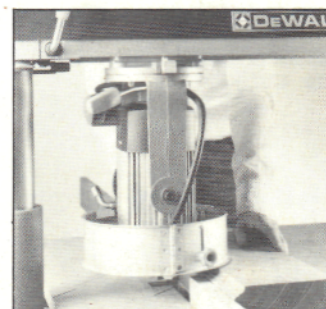
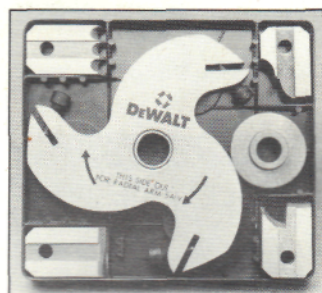

Fig. 39
Fig. 43
Adding that professional finish to your work with a clean decorative edge is quick and easy with the optional DeWalt Shaping Head attachment (Fig. 39). It can also be used for cutting round grooves and for drawer, and tongue and groove joints. The range of cutter profiles available is illustrated in the list at the back of this booklet.
- (vi) Before operating the machine you should now mount the special Shaping Head guard and adjust its position depending on the depth of knife profile you intend to use (Fig. 39).
NOTE: Figs. 39/40 feature the DeWalt Premium Quality Shaping Head which is designed for the more intense, larger profile shaping/rebating applications. There is also available, however, a general-duty shaping head (Fig. 43), which is perfectly satisfactory for slow-feed, fine-finish applications and has a similarly wide range of compatible cutters.